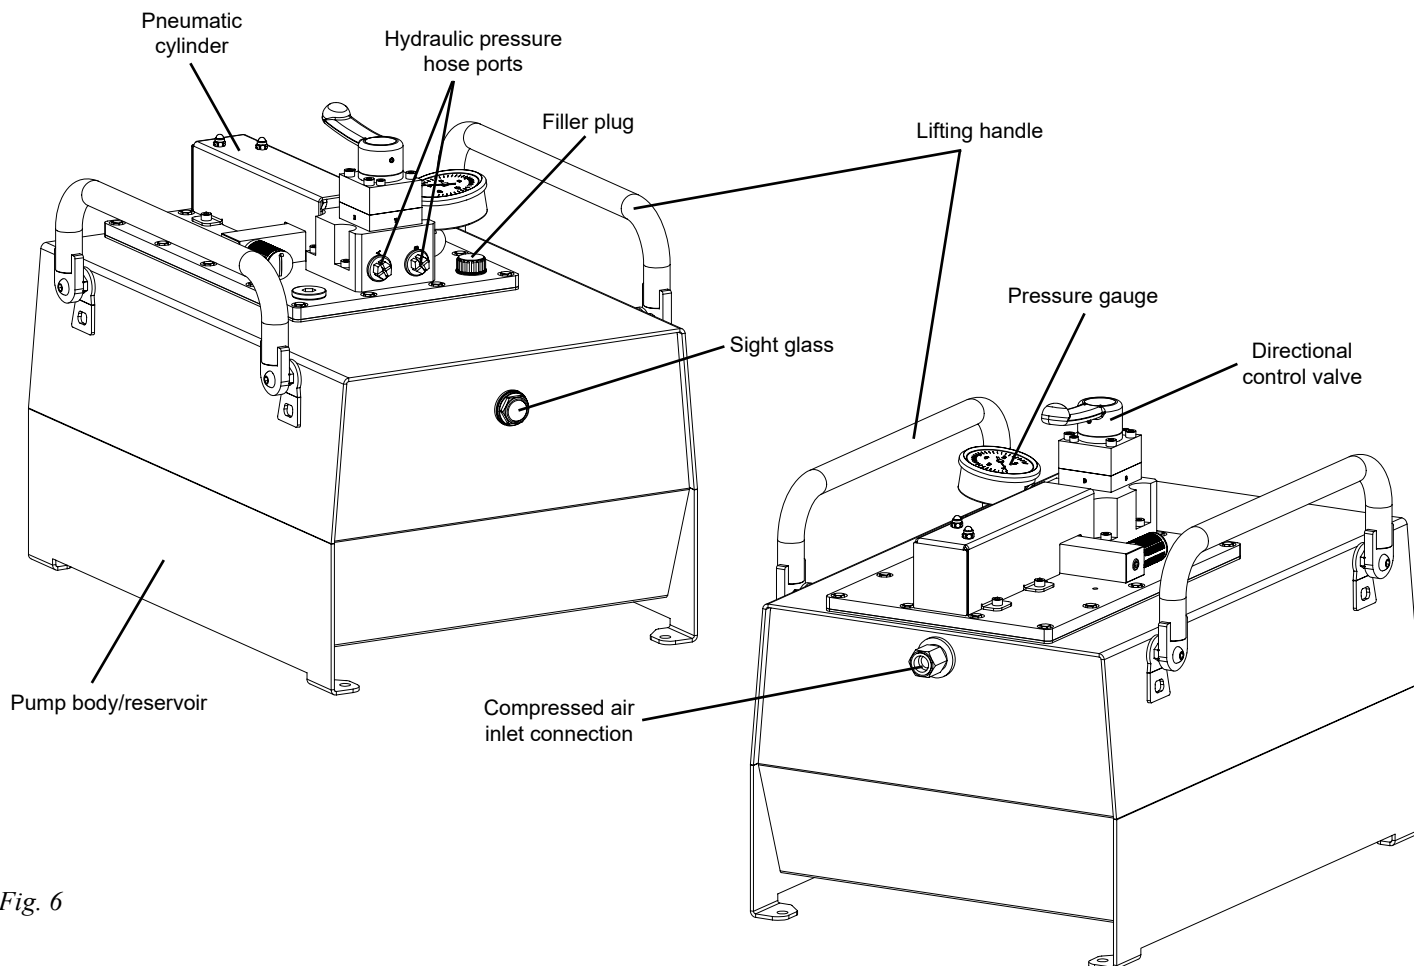

Fig. 6
Figure 6 shows the components of the pump.
- Select a quick coupler that is suitable for your air line, bind the thread with Teflon tape, and then screw it into the compressed air inlet connection (fig.6, page 12).
- To activate the pump connect the compressed air hose to the pneumatic cylinder (fig.6, page 12) and supply the air. The pump will start to deliver pressurized oil and thereby cause the connected machine to operate.